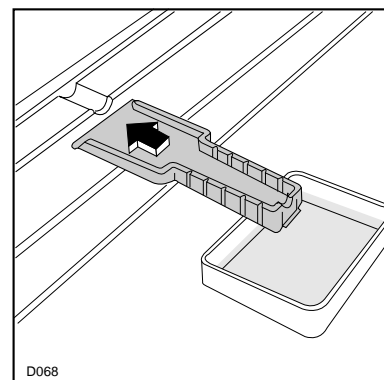

Fig. 17
- turn the thermostat dial to the «OFF» position (O) or disconnect the appliance from the mains.
- Leave the door open and insert the ice scraper under the channel in the centre of the lower part of the appliance; place a low-sided container beneath the scraper to collect the water (Fig. 17).